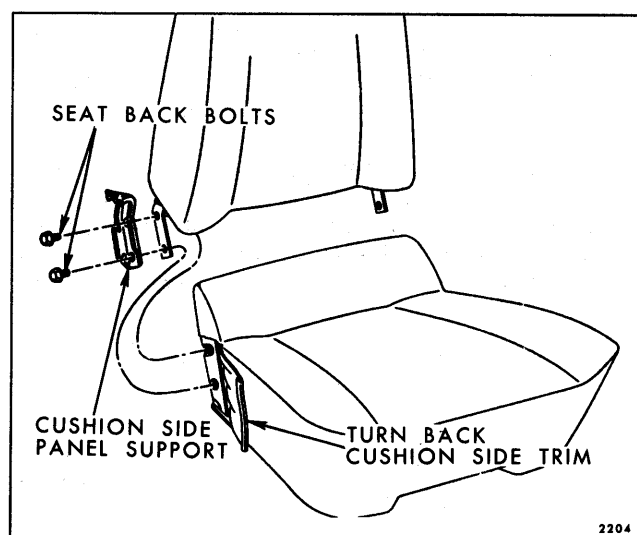

Fig. 15-39—Bucket Seat Back Removal (Without Reclining Seat Back) - All Except Corvair
2. With seat side panels removed, remove hog rings securing seat cushion trim at rear of seat and along bottom of seat and turn back trim sufficiently to expose seat back hinge-to-seat cushion frame attaching bolts (Fig. 15-39).
3. Remove seat back hinge-to-seat cushion frame attaching bolts (Fig. 15-39) from both sides of seat and remove seat back assembly from seat cushion.